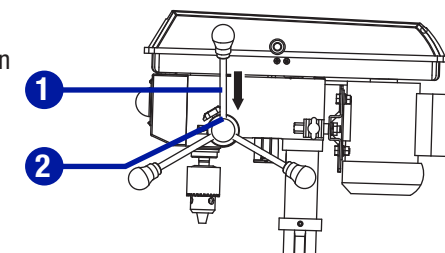

Fig. 7
**FEED HANDLES (Fig. 7)**
- Thread the three feed handle rods (1) into the holes on the feed hub (2).